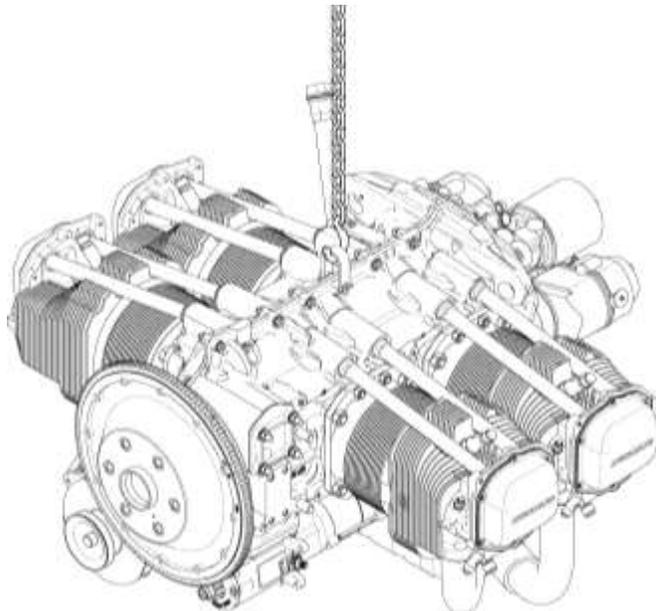

Figure 1
- (5) Apply a cap over oil and fuel lines and connections to prevent spillage and debris from entering the engine.
- (6) Apply tags to identify ports, clips, tubes, wires, etc. for reference to make correct connections during engine installation. Identify the location of each part during removal. Attach a tag to unserviceable parts and units for examination or replacement.
- (7) Disconnect the alternator from the engine.
- (8) Remove all wiring bundle attaching clamps and hardware.
- (9) Remove the manifold pressure gage line and aircraft fuel supply lines in accordance with the aircraft manufacturer's instructions.
- (10) Refer to the aircraft manufacturer's instructions to disconnect any accessory connection or to remove any external accessories to enable removal of the engine from the aircraft.
- (11) Make sure that all wires, lines, and attachments between the engine and airframe are disconnected and capped.
- (12) Attach an engine-lifting cable (with a minimum capacity of 750 lb (340 kg)) to the lifting straps on the engine in accordance with Figure 1.